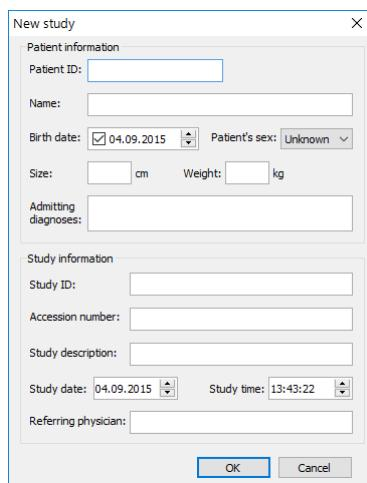

Figure 429 – New study dialog
2. Fill the information concerning the new study into the **New study** dialog (see Figure 429), and click the **OK** button. The **New series** dialog then opens.